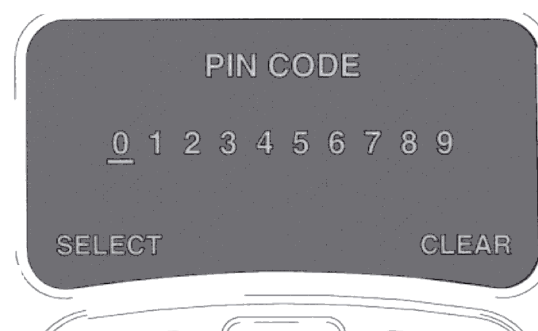

FIG. 9
On the right side of the display is a series of four bars under the word BATT. See FIG. 9. The presence of all four bars indicates a fully charged battery. The bars decline in number as the battery discharges when the meter is used. When one bar is shown the battery needs to be recharged.
- 1 Enter the operator 4-digit pin code using the left arrow and right arrow buttons. The clear button erases the last selection and allows a new selection to be made. The meter displays an asterisk for each digit that is entered. See FIG. 9.